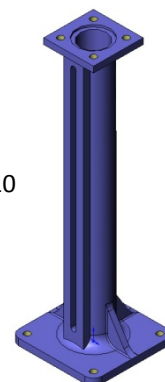

fig. 10
- Straight floor stands (fig. 10)